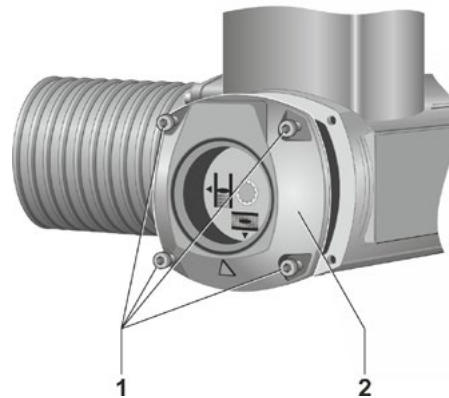

Fig. 1: Removing the cover
1. Loosen the four screws (fig. 1, item 1) and remove cover (2). Pay attention to seal.
8. Screw on cover (fig. 1, item 2) ensuring proper fit of the seals.